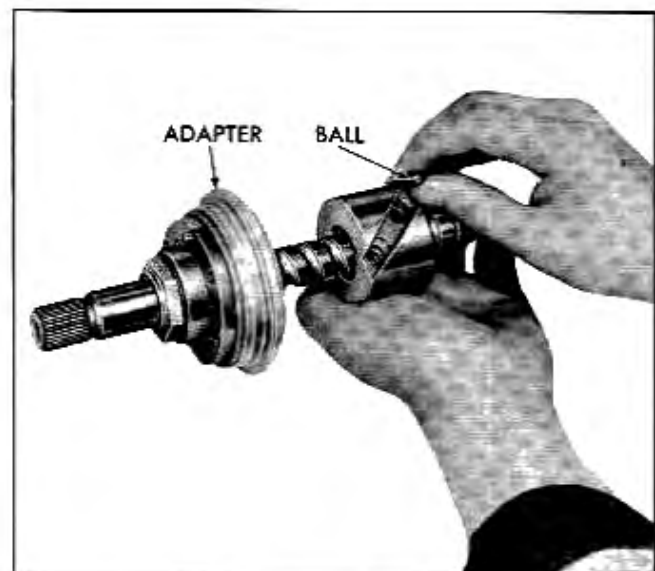

Fig. 9-53 Loading Balls into Ball Nut
3. Align ball return guides with worm groove. Load 17 balls into ball nut. Drop balls into return guide holes farthest from adapter while slowly rotating worm counterclockwise to feed balls through circuit (Fig. 9-53).